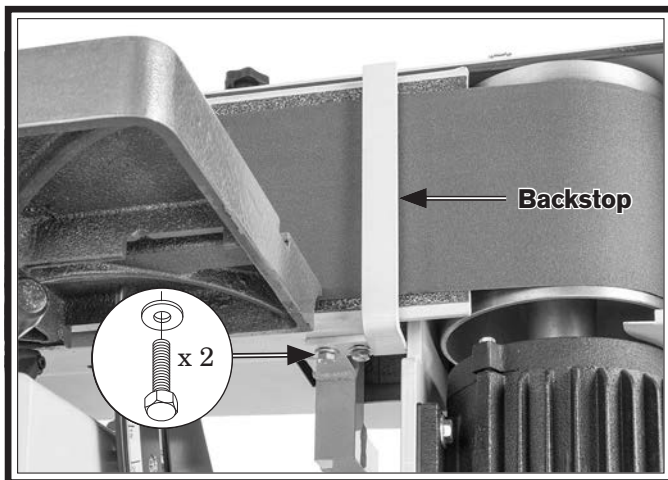

Figure 36. Location of backstop hex bolts.
5. Loosen (2) hex bolts shown in **Figure 36** enough to allow backstop adjustment.